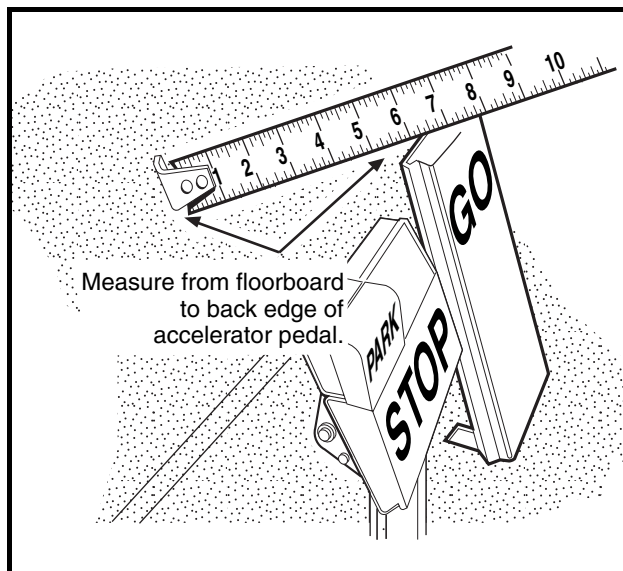

Figure 5-14 Accelerator Pedal Height Measurement
- 4.3. With the park brake unlocked, measure and note the distance from the top of the accelerator pedal to the floorboard, and then lock the park brake (**Figure 5-14, Page 5-13**).